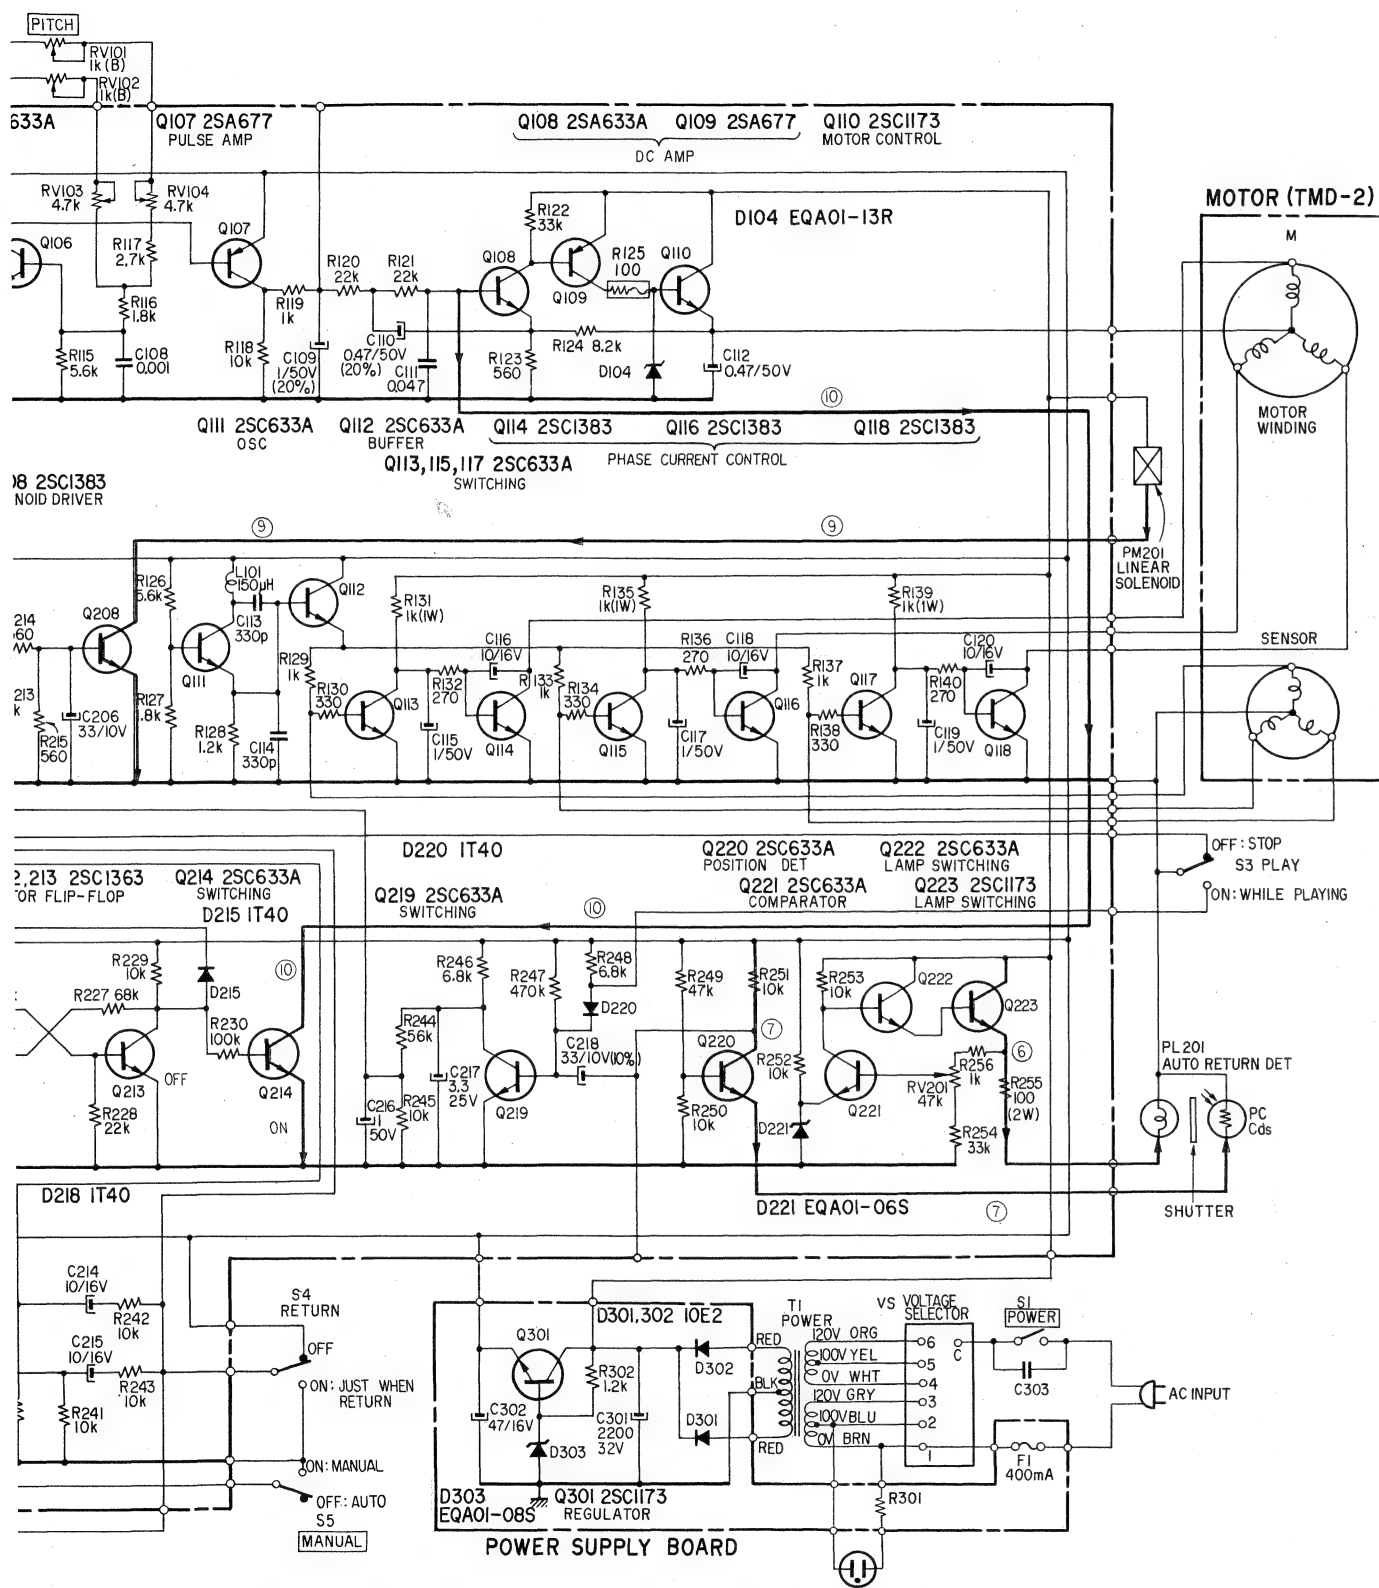

Fig. 2-6.
### 1. Operation when power switch turned ON. (see Fig. 2-6)
1. When the power switch is turned ON, C209 is charged up, and Q211 turned ON. (① and ② in Fig. 2-6).
2. Once Q211 is turned on, currents flow through D210, D214 and D209 (③, ④ and ⑤ in Fig. 2-6), resulting in the resetting of each of the flip-flops (i.e., Q210, Q212 and Q218 are turned ON, and Q209, Q213 and Q217 turned OFF). This situation thus maintains circuit stability.
### 3. Operation for auto-return (see Fig. 2-6)
1. When the power switch is turned ON, and Q222 and Q223 turned ON, the auto-return detector lamp PL201 lights up. (Current flow ⑥ in Fig. 2-6.)
2. When the tonearm reaches the return position, a shutter is opened, and light from PL201 falls upon PC (CdS). The resistance of PC consequently decreases, resulting in the Q220 collector potential being dropped, and the Q219 base potential being dropped through C218. Consequently, Q219 is turned OFF, and Q206 turned ON. (See current ⑦ and ⑧ in Fig. 2-6.)
3. The base of Q207 is thus grounded, resulting in Q207 turning OFF, and Q208 turning ON, and a current flowing through the solenoid. (Current ⑨ in Fig. 2-6.)
6. Q211 is turned ON via C215, R243 and D211, resulting in the flow of currents marked ③ and ⑤ in Fig. 2-6.
7. Consequently, flip-flops Q209, Q210 and Q212, Q213 are inverted (Q209 and Q213 are turned OFF, and Q210 and Q212 turned ON), or in other words, reset. Q213 is then turned OFF, resulting in Q214 being turned ON (current flow ⑩ in Fig. 2-6), and the base of Q108 being grounded. Therefore, Q108, Q109 and Q110 are all turned OFF, and the motor stops rotating. Further, since Q209 is turned OFF, the START indicator lamp (LED) D201 goes OFF.